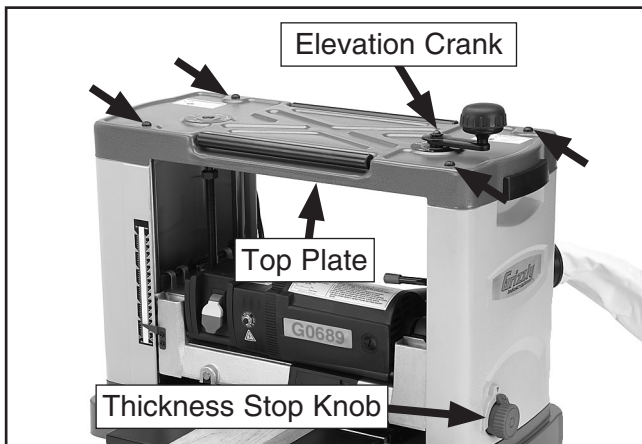

Figure 35. Top and side cover removal.
2. Remove the elevation crank and the four button head cap screws that secure the top cover. Remove the top plate (**Figure 35**).